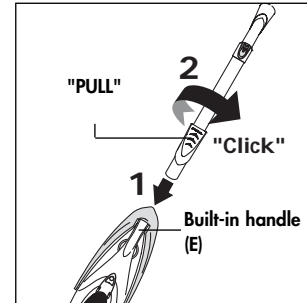

Fig. 1
Unpack the appliance, fit the suction hose into the hole in the fork of the "Nautilus System" (fig. 1), push it in as far as it will go then rotate clockwise until it locks in place. **To ensure the hose is correctly inserted, make sure the word "PULL" on the rotating device on the hose is turned towards the built-in handle (E).**